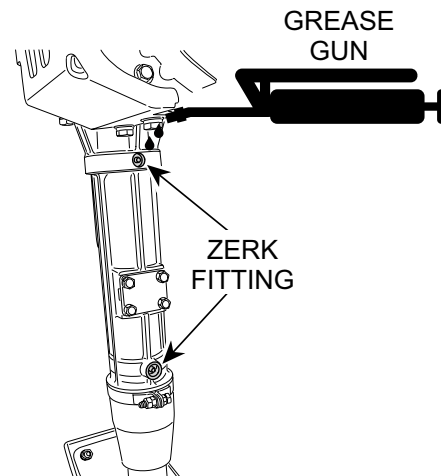

Figure 25. Grease Fittings (Main Springs)
- The rammer main springs (Figure 25) should be lubricated with **five shots** of grease with a hand grease gun after each eight (8) hours of use.